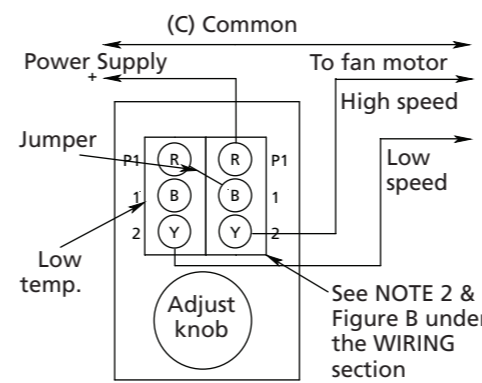
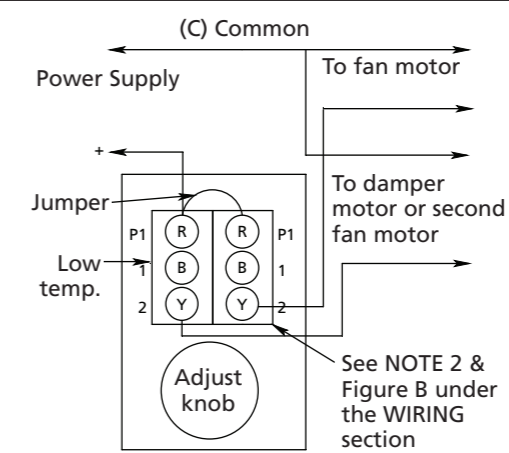

Figure 4 - Two-stage SPDT/SPDT Thermostats in Control of a Two-speed Ventilating Fan
Figure 5 - Two-stage SPDT/SPDT Thermostats in Control of a Single-speed Ventilating Fan and Volume Increase Damper Motor
Figure 4 shows wiring for controlling a two-speed ventilating fan. When the control element reaches the knob settings, the low temperature switch starts the fan on low speed. If the ambient temperature continues to rise, the high temperature switch supplies power to the high-speed motor winding.
Figure 5 shows a typical SPDT/SPDT connection for a two-speed fan application. The damper motor will be energized when the temperature reaches the knob setting. If the temperature continues to rise, the fan motor will be energized by the high temperature switch.
- Thermostats with SPDT/SPDT 2 Stage switching: If connection is similar to Figure 4, fan should start at approximately ambient temperature and should change to high speed, as the knob is turned counterclockwise to a lower temperature setting. If wiring is similar to Figure 5, the damper should open as the knob is turned counterclockwise (to lower temperature setting). The devices should act in reverse sequence when the knob is turned clockwise.